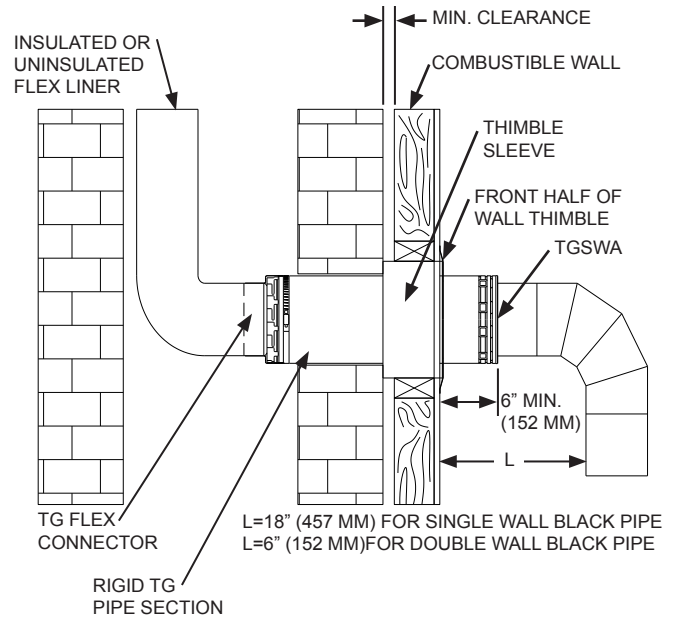

FIG. 13
Step 1: Solid-fuel appliances will require the use of TG Flex Connector, TG Wall thimble and a rigid section of TG Pipe (See FIG 13). For insulated flex liners, insulation must also cover the TG Flex Connector.
Step 4: Insert TG Flex Connector into rigid TG pipe (**be sure flow arrow is pointed in correct direction**). Secure connector to pipe by tightening hose clamp. The rigid TG pipe must extend out past the combustible wall a minimum of 6 inches (152 mm) as shown in FIG 13.
NOTES: Finish connection to appliance making sure to keep minimum clearance "L" inches (mm) as shown in FIG. 13.